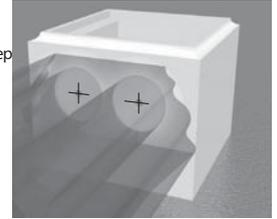

FIGURE 4B
**B)** Transfer the measurements onto the NEWEL POST BOTTOM SECTION that will come in contact with the BALUSTER BOTTOM RAIL (FIG. 4B), and drill 1/2" holes, which are oversize, in the NEWEL POST BOTTOM SECTION.